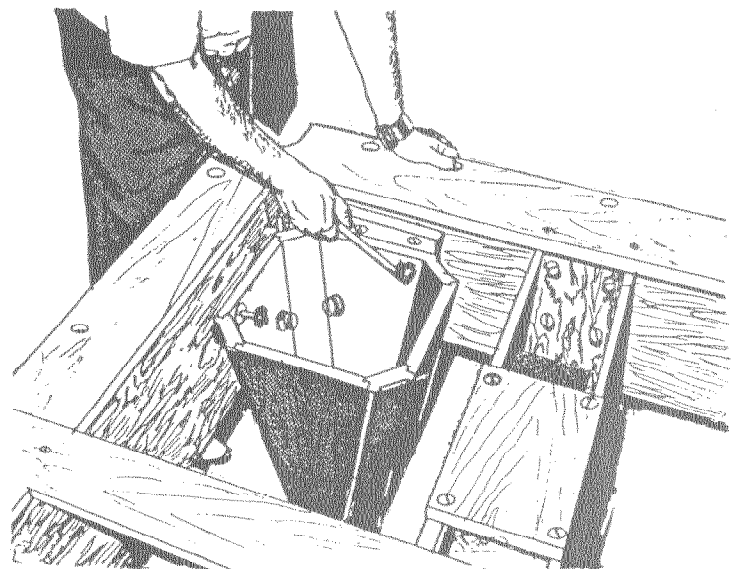

FIGURE 4
4. Position leg at corner of base frame as shown in Figure 4. Align the mounting holes in the leg with the threaded "tee" nuts pre-positioned in the base frame. Insert four (4) hex head cap screws, 3/8-16 x 1-3/4" (with a washer on each screw) through the mounting holes in leg and tighten finger tight.
5. Making sure that both sides of leg are against sides of base frame, tighten the four (4) screws securely. Proceed in same manner with other three legs.
6. When all four (4) legs are securely fastened to base frame, remove the stools or chairs and position table in its permanent location.